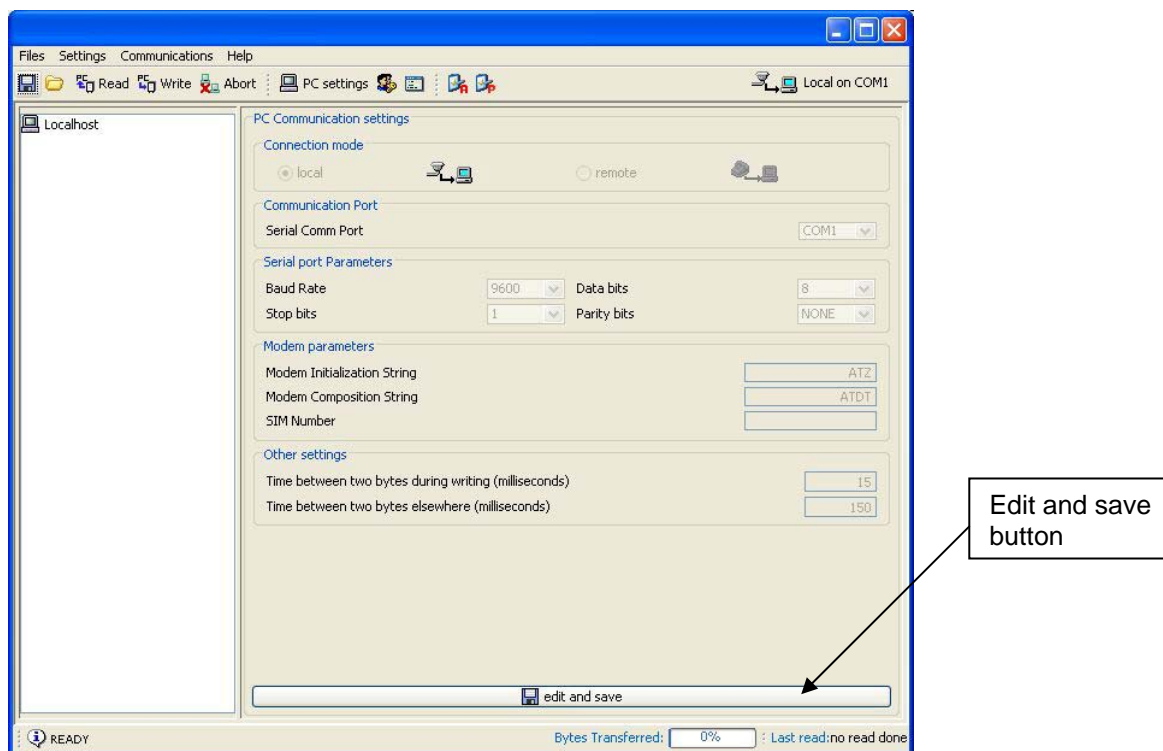

FIGURE 9 – 'COMMUNICATION SETTINGS' PANEL
- press the 'Edit and save' button again to confirm (FIGURE 9).
- a) In the tree structure of the repeater system (Figure 9) select the repeater (double click on 'Repeater'): on the right side of the window, the configuration and status panels of the repeater will be shown (Description, Spectrum, Parameters, Alarms, Communications, Advanced).